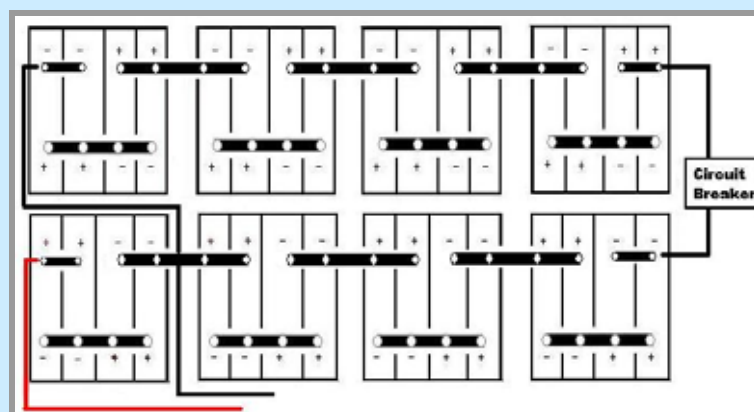

Figure 2: Connection of batteries (4KWH)
9. Wiring: Pull off the protection cap of the battery terminals (positive and negative) between two battery packs, insert the copper connect bar and tighten the screws to put them in series as shown in Figure 2; Connect the DC/DC converter to the end terminals of the battery pack, red to positive and black for negative; Connect the high voltage core (red and black core with blue bullet connectors) to the converter output connectors; Connect the 6 pin phone wire to the converter; Connect the white connectors to the BMS. Connect the grey Anderson connector to the charger.
12. Bumper outlet for charger connection. Black wire: Live line (L); White wire: Null Line (N); Green wire: Ground Line (E). Take the wire of charger through the back panel and reach to bumper outlet. You need to get your hand in from under the car and tighten the silver ring of bumper plug.